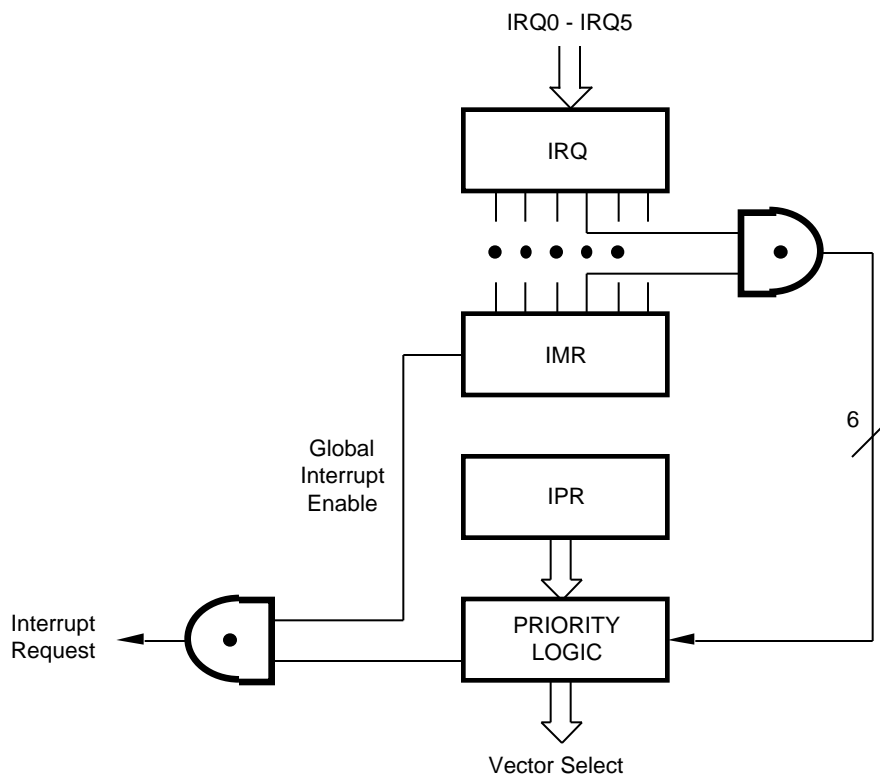

Figure 16. Interrupt Block Diagram
**Interrupts.** The Z86C21 has six different interrupts from eight different sources. The interrupts are maskable and prioritized. The eight sources are divided as follow: four sources are claimed by Port 3, lines P33-P30; one in Serial Out, one in Serial In, and two in the counter/timers (Figure 16). The Interrupt Mask Register globally or individually enables or disables the six interrupt requests. When more than one interrupt is pending, priorities are resolved by a programmable priority encoder that is controlled by the Interrupt Priority register. (Refer to Table 4.)